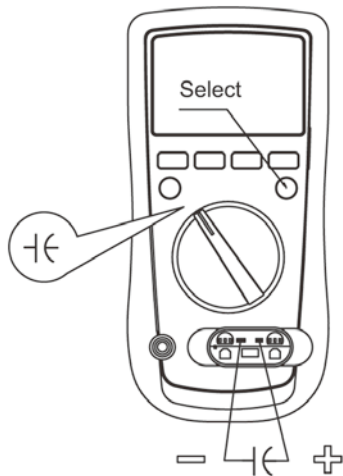

figure 7
F. Capacitance Measurement (See figure 7)